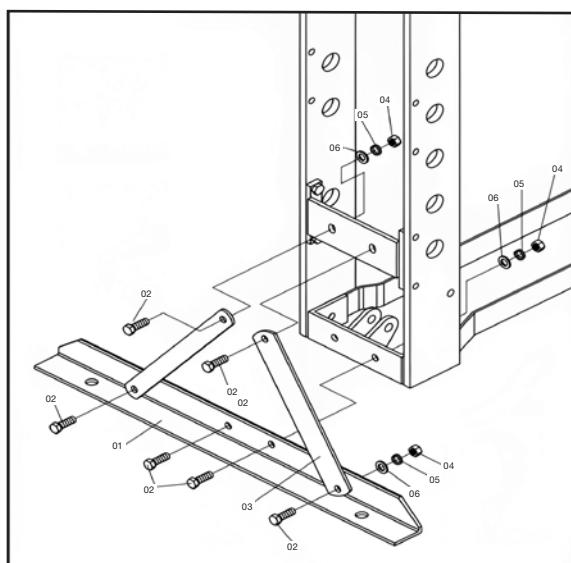

Figure 2
- **Attach the FootSection (3) and Support (2) to left and right Connecting Plate (7) using Bolt (01), Washer (04), Lock Washer (05) and Nut (06).** (figure 2)
- Assemble the Nylon Ring (42) to Gauge Fitting (43), then put the Pressure Gauge (41) and twist tight.